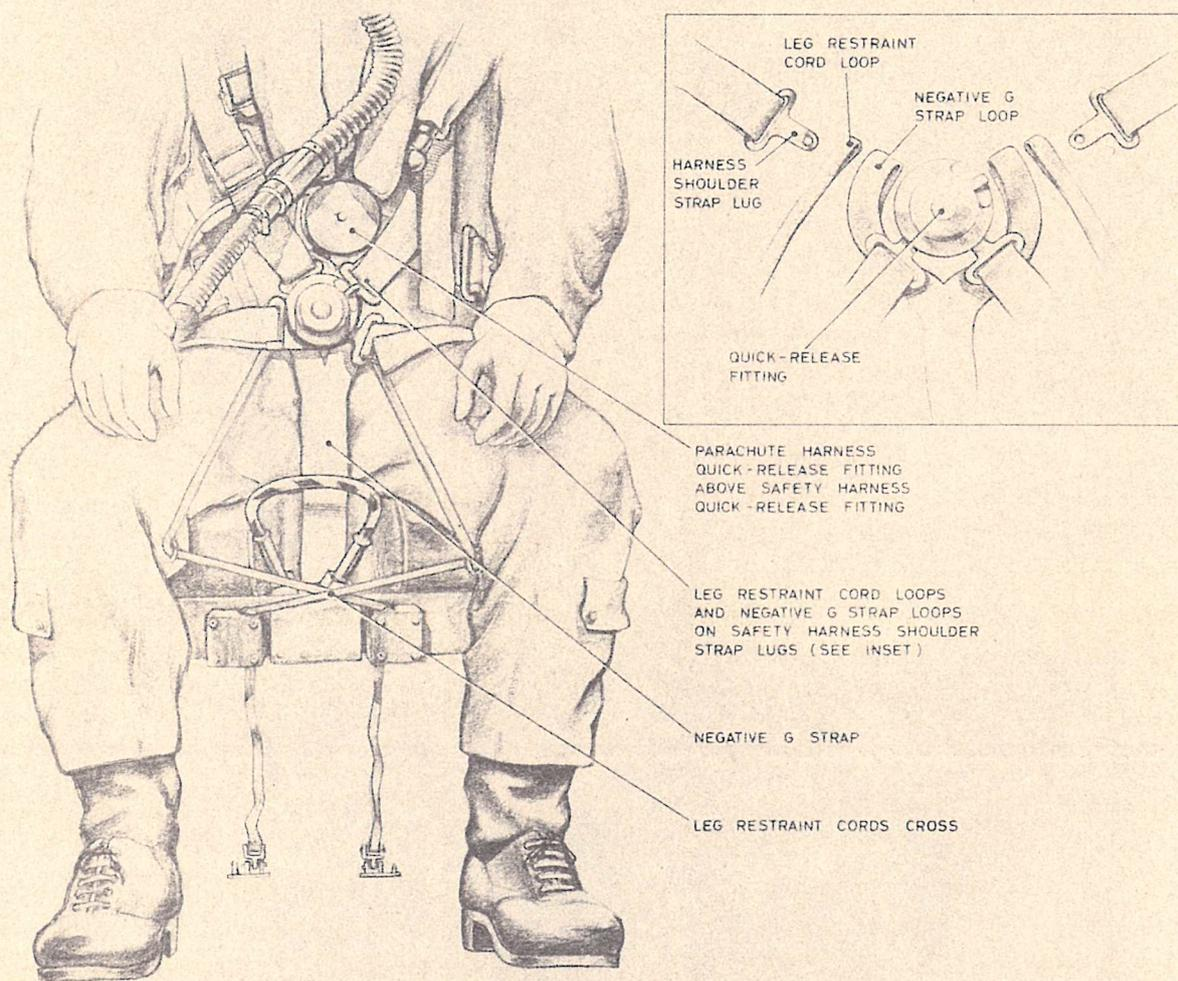

Fig. 4. Arrangement of leg restraint cords (inset: Assembly to quick-release fitting)
23. The strapping-in procedure is as follows; refer to fig. 4 to 6 for detail as necessary:-
- (6) Pass the parachute harness leg straps through the leg loop and couple the lugs to the quick-release fitting.
- (7) Adjust the quick-release fitting so that it lies centrally with the waistbelt close to the body.
- (8) Tighten the shoulder straps first so that the parachute harness quick-release fitting will lie above and clear of the safety harness quick-release fitting when assembled.
- (9) Tighten the parachute harness leg straps. When tightening harness straps, pull on the running end with one hand and push on the standing end with the other hand to relieve the tension on the buckles.
- (10) Connect the air supply hose to the air ventilated suit (if worn).
- (11) Fasten the lap straps of the safety harness but do not tighten.
- (12) Draw the negative-G restraint strap up between the legs and tuck the V-shaped end under the safety harness. Ensure that the negative-G restraint strap is clear of the seat pan firing handle.
- (13) Thread the leg restraint cords through the quick-release coupling rings on the garters as follows :-
- (a) Pass the cord emerging from the snubbing unit behind the left leg through the garter ring on the right leg and UNDER the safety harness lap strap. Insert the lug of the safety harness right shoulder strap through the loop at the end of the leg restraint cord and also through the loop at the end of the right branch of the negative-G restraint strap. Secure the lug in the quick-release fitting (see inset of fig. 4).
- (14) If there is insufficient leg restraint cord, press and hold the plunger under the snubbing unit and draw the cord upwards; if there is too much, draw any excess downwards through the unit (it is unnecessary to press the plunger in this instance).
- (15) Tighten the safety harness lap straps first, then tighten the shoulder straps and tension the negative-G restraint strap.
- (16) Connect the main and emergency oxygen supply to the mask tube assembly and the locating chain to the life-jacket.
- (17) Connect the Mic/Tel lead.
- (18) Adjust the height of the seat. Ideally, the head is to be located in the centre of the headrest cushion.
- (19) Reach upwards and check that the face screen firing handle is within easy reach; DO NOT PULL.
- (20) Ensure that the chin straps of both helmets are fastened, fit the oxygen mask and perform pre-flight oxygen checks.